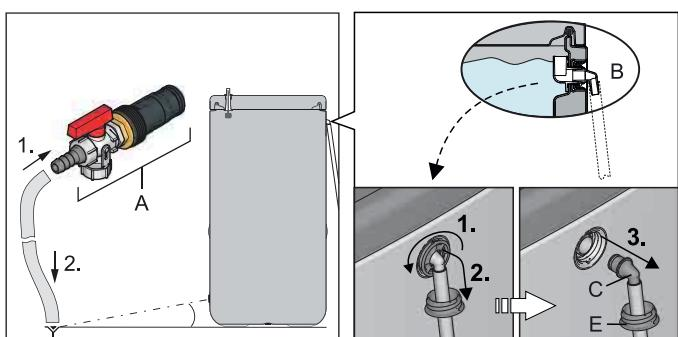

Fig. 5-1 Connecting the drainage hose
- Connect the drain hose to the filling and draining valve (**KFE BA**, **16 52 15**) (fig. 5-1, item A) and run to a drainage point that is at least soil deep.